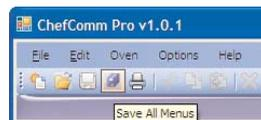
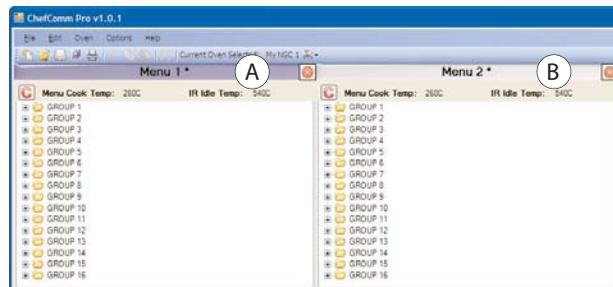

Figure 25: Save All
Figure 26: Selected Menu
NOTE: If multiple menus are open, click the **Save All** icon (Figure 25), or be sure to select which menu you want to save. The title bar of the selected menu will be in color (Figure 26, Item A). The title bar of any deselected menu will be gray (Figure 26, Item B).
2. Make sure the menu is selected, as indicated by the purple title bar. Other open menus that are not selected will have gray title bars (Figure 26, page 8).
2. In ChefComm, make sure the menu is selected, as indicated by the purple title bar. Other open menus that are not selected have gray title bars (Figure 26, page 8).
2. In ChefComm, be sure the menu is selected, as indicated by the purple title bar. Other open menus that are not selected have a gray title bar (Figure 26, page 8).